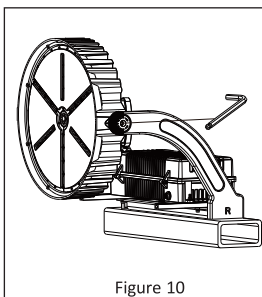

Figure 10
4. Using an M10 Allen key, loosen the adjustment screws on the LED array. **See Figure 10.**